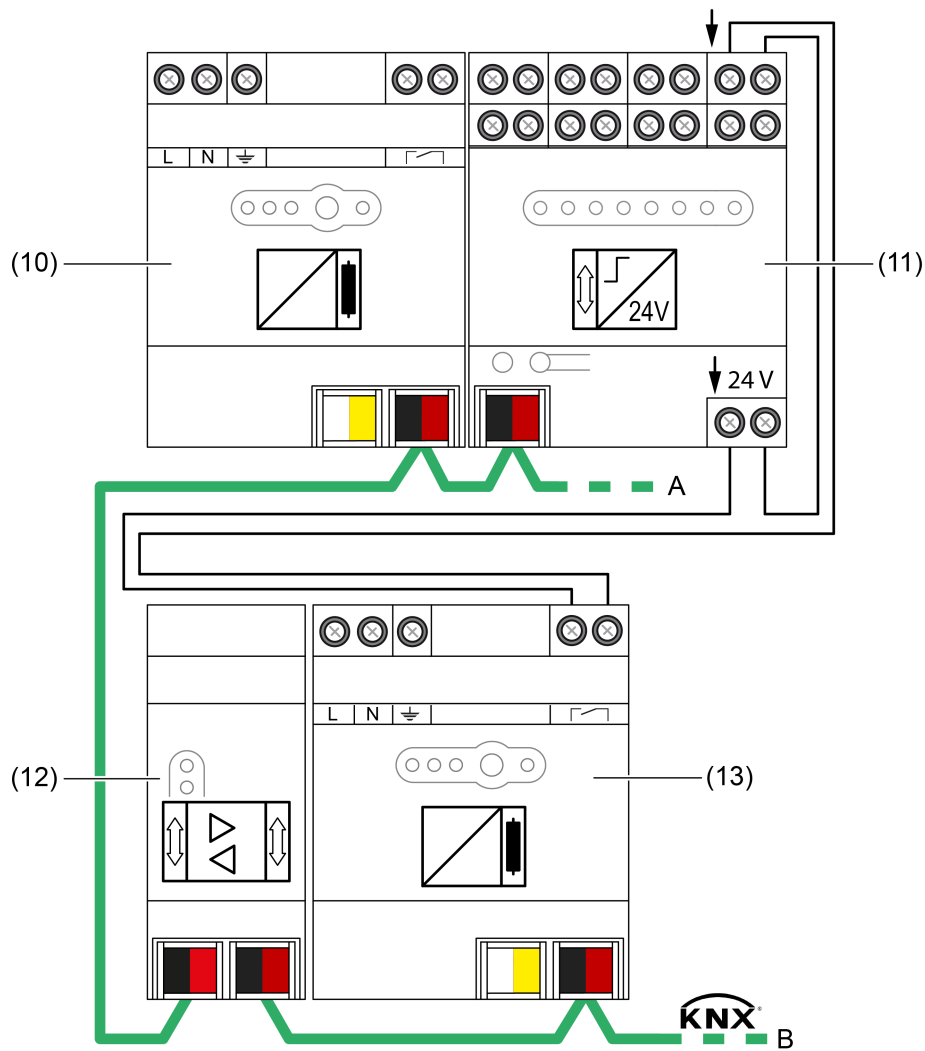

Figure 4: Connection example for KNX binary input
- Connect the KNX binary input according to the connection example (see figure 4).